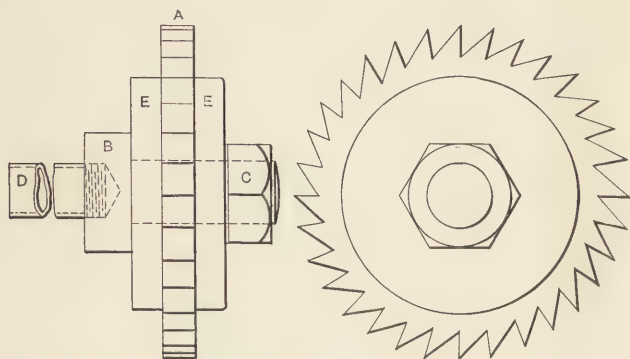

Fig. 14. Hardening a Thin Cutter.
**Hardening a Thin Cutter.**—To harden a milling cutter about  $\frac{1}{4}$  inch thick and 5 inches in diameter in a way to prevent warping and cracking, fix it as in Fig. 14, but in heating put on a little blast, instead of